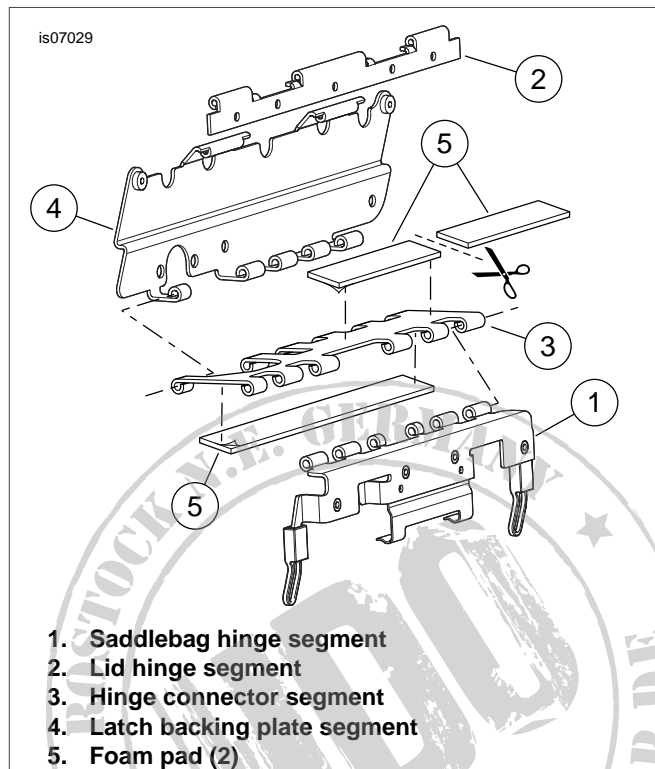

Figure 7. Install Foam Pads to Saddlebag Latch Hinge (Left Side Shown)
See Figure 7. The saddlebag latch hinge is shown with the pins removed for clarity.
- Get two foam pads (Figure 12, Item 24) from the kit. Cut one piece in half as shown in Figure 7. Remove the liner from the adhesive backing of the **uncut** pad and affix to the flat side of the latch connector segment.